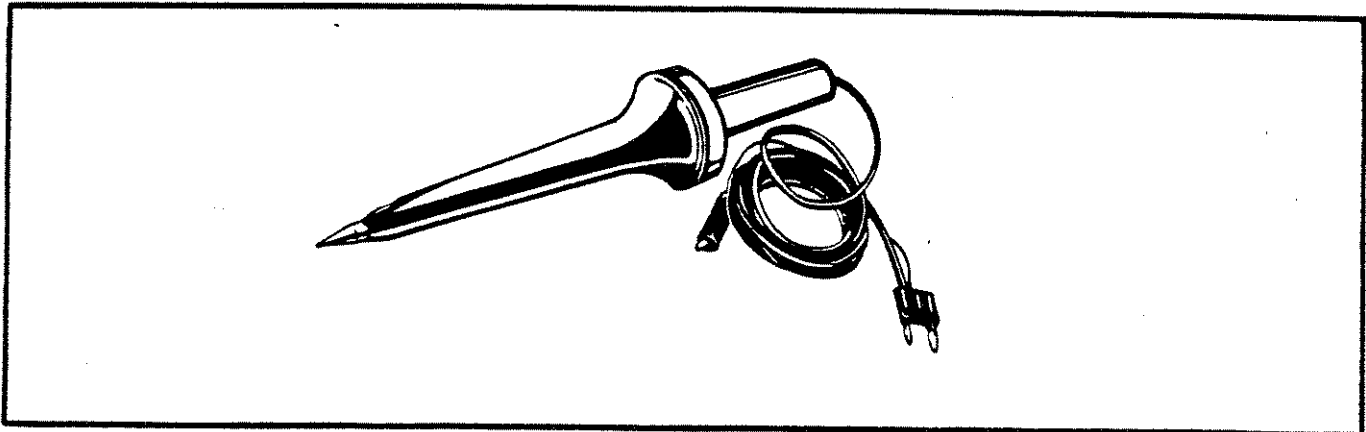

FIGURE 2-4. Model 1600 High Voltage Probe.
a. Model 1600 High Voltage Probe. The Model 1600 High Voltage Probe (shown in Figure 2-4) extends the measurable dc voltage range up to 40 kilovolts. It has a 1000:1 division ratio so that a reading of 1 volt on the DMM corresponds to 1 kilovolt (1000 volts). To use the probe, select DCV and the required range; connect the high voltage probe banana plug to the instrument, connect the alligator clip to source low, and touch the probe tip to source high.